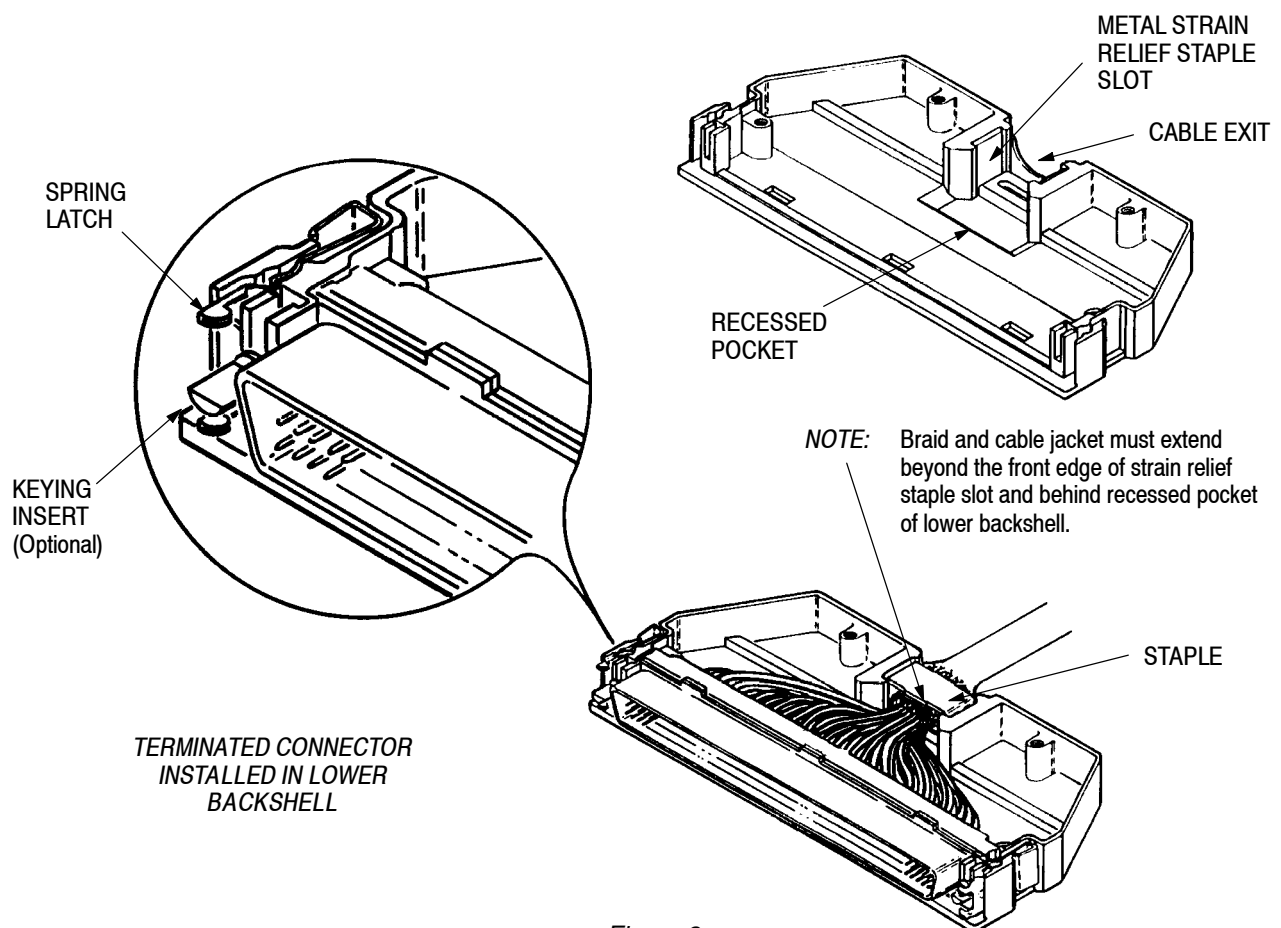

Figure 8
4. Insert the connector in the lower backshell until bottomed. See Figure 8.
5. After ensuring that the cable braid is folded back smoothly over the cable jacket and trimmed, place cable in the cable exit of the lower backshell. Make certain that braid and cable jacket extend beyond the front edge of the staple slot area and behind the recessed pocket of the lower backshell. Refer to Figure 8.
6. When using the plastic backshell kit, insert lower hermaphroditic shield in lower backshell. See Figure 6C. Place one hermaphroditic shield over the assembly, and insert it until it latches with the other shield. Place the metal strain relief staple in the slot and over the cable braid (and upper shield, when used). Braid should not extend out of cable exit of backshell. See Figure 8.
8. Install the spring latches (or jackscrews for shielded plastic backshell) in the slots provided. See inset of Figure 8 for detail.